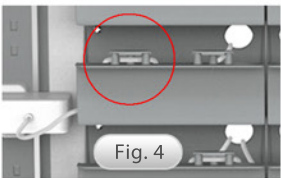

Fig. 4
2. Feed the device cable through the cable port and onto the device tray. Excess cable can be tied off on the adaptor tray if required. (See Fig. 4)